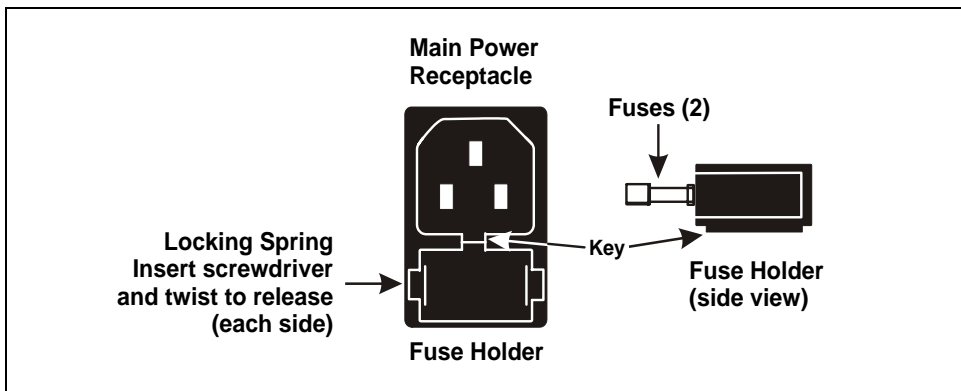

Figure 5-26. Autosampler Compartment Main Power Fuse Holder
2. A recessed lock is located on each side of the fuse holder (see Figure 5-26). Using a small screwdriver, push each lock toward the center to release it. The fuse holder pops out approximately 0.16 cm ( $1/16$  in) when the locks release. When both locks are released, pull the fuse holder straight out of its compartment.